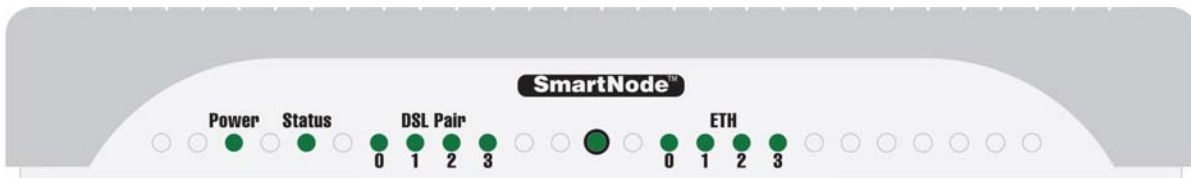

Figure 9. SmartNode SN5300 Power LED
4. Verify that the green *Power* LED is lit (see figure 9).